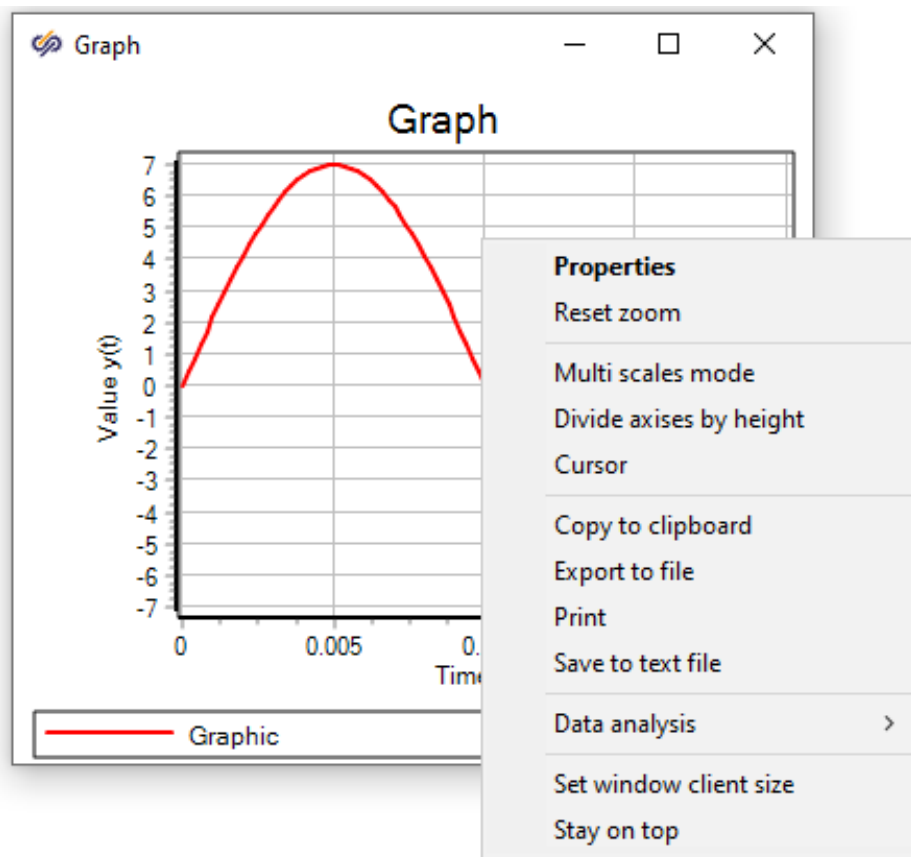

Figure 1.19
11. Move the cursor to the central part of the graph window and make a right-click. As a result, a context menu will appear (Figure 1.19), in which you can select commands for copying to the clipboard, exporting to a file, printing and saving graphics images to a text file, etc.